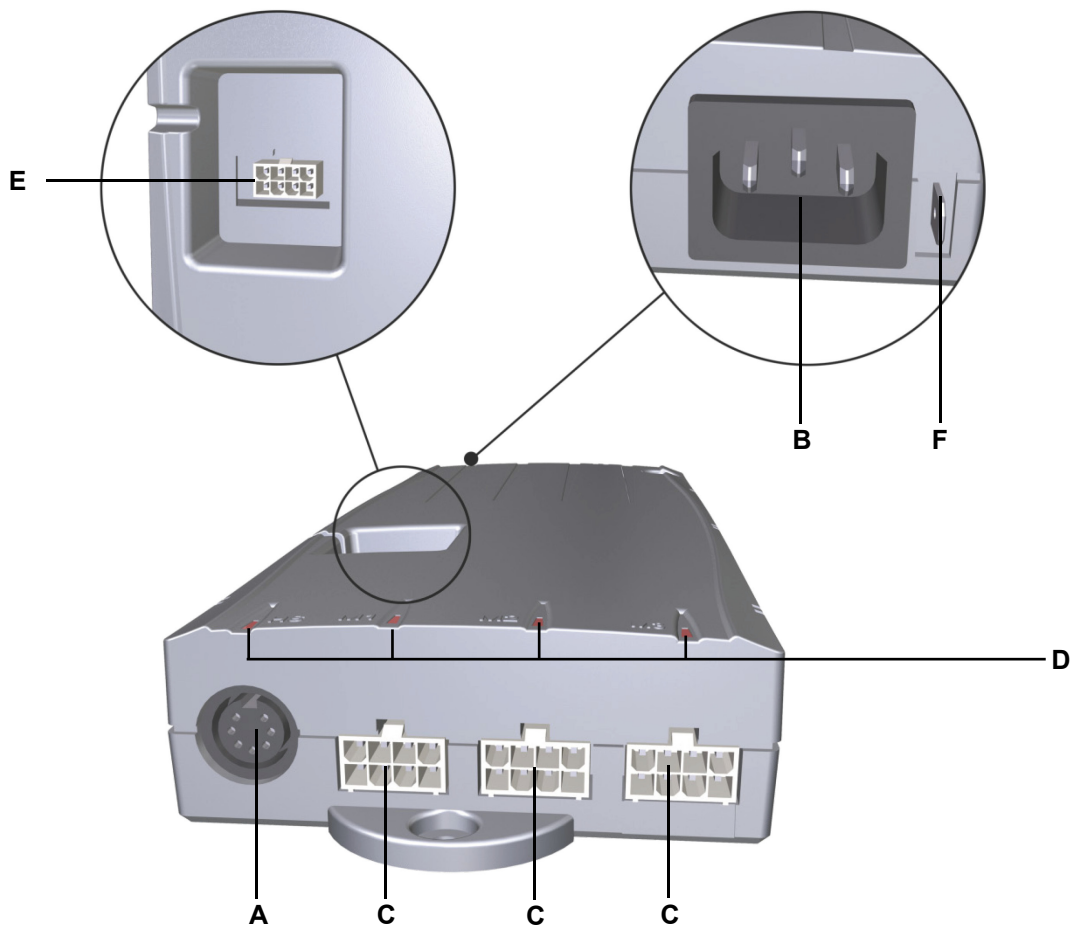

Figure 40 Connection ports on the COMPACT control unit
**6** Connect the processor's cable to the COMPACT control unit (see Figure 40).